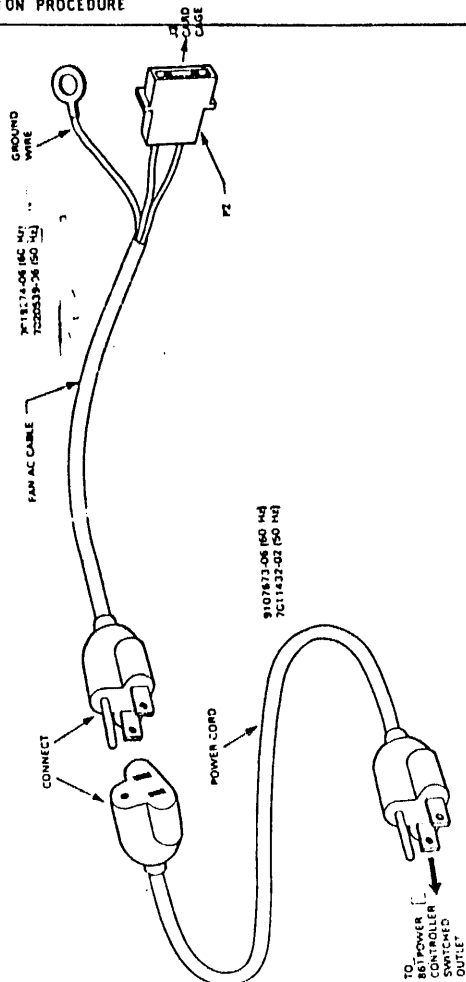

Figure 3-14. Fan AC Cable And Power Cord
18. Locate the fan ac cable, DEC part number 7019274-06 (120 Vac 60 Hz) or 7020539-06 (240 Vac 50 Hz), and the power cord, DEC part number 9107673-06 (120 Vac 60 Hz) or 7011432-02 (240 Vac 50 Hz), (see Figure 3-14). Connect the fan ac cable connector P2 to connector J2 on the NIA20 card cage and then join the fan ac cable to the power cord. Insert the other end of the power cord into any available switched outlet of the B61 power controller. Connect the ground wire to the adjacent side ground screw on the NIA20 card cage. Use a star washer to ensure a good electrical connection.